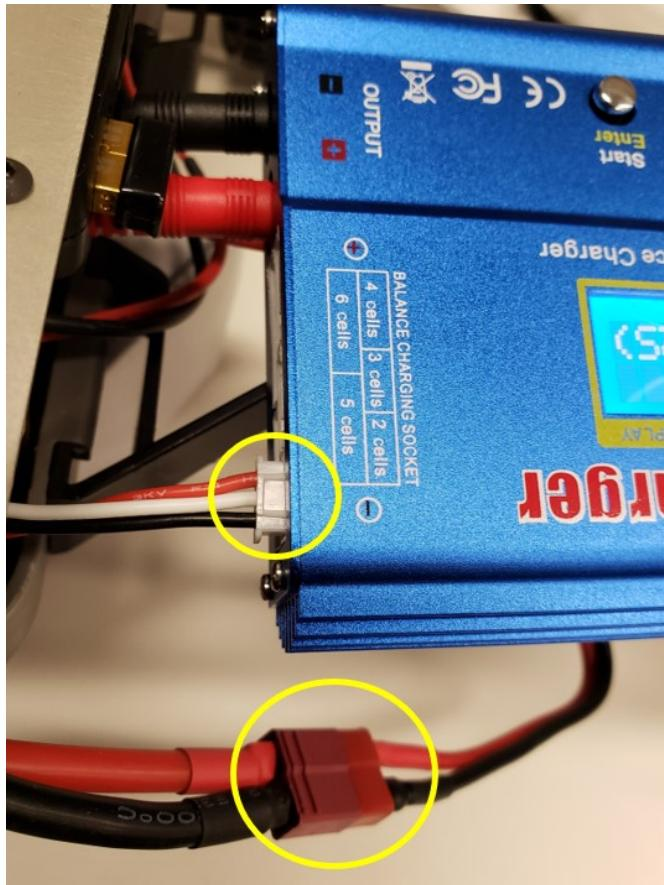

Figure 10
5. Connect the Deans adapter from the LiPro charger to the battery AND the voltage monitor cable to the top right corner of the balance charging sockets (2S for two cell batteries), as shown in Fig. 10.